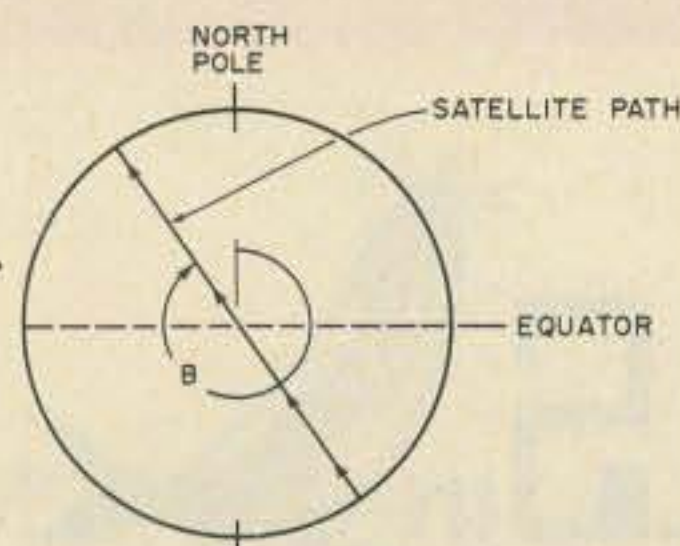

Fig. 1. Bearing of the satellite sub-point path at EQX (represented by the angle B).
3) The bearing of the satellite sub-point path at EQX (see Fig. 1).